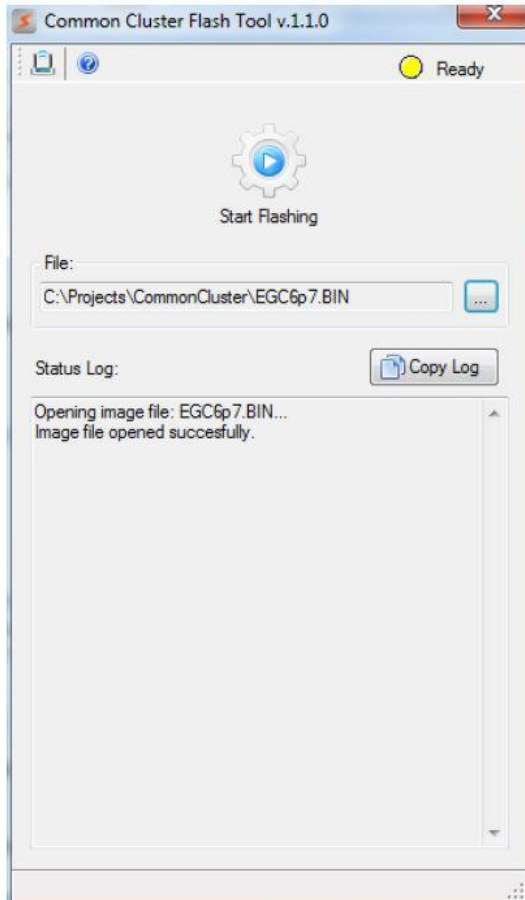

Figure 5- Select File
3. Click on the "Select File" button (Figure 1) to select the file to download (i.e. the *.bin file). This can be done by dragging and dropping an appropriate file from Windows Explorer. The flash file is located in the following directory: Computer\Windows\Program Files(x86)\Stoneridge\HDDL2 Flashtool\PHY File. After the file is selected, the "Status Indicator" will be yellow, steady and labeled with the text "Ready", and the "Start Flashing" button will be enabled (See Fig. 5).
4. Make sure that the common cluster unit and the selected CAN interface are properly connected and powered. Press the "Start Flashing" button (Figure 1) to start the flashing process and the flash tool will display a warning message to turn the key off (See Figure 5).